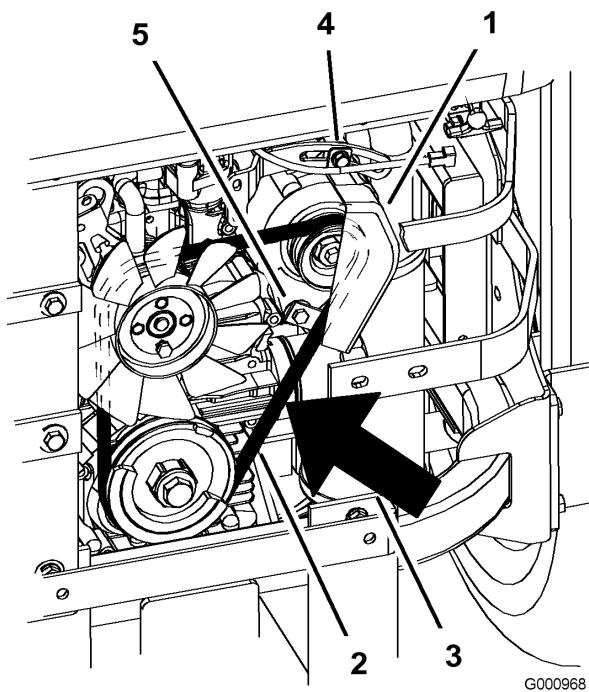

Figure 61
9. Install a new belt around the pulleys and the alternator (Figure 61).
14. Tighten the bottom bolt and install the upper bolt holding the alternator and cover (Figure 61).
2. Adjust the alternator to the outside until there is 1/4 to 11/32 inch (7 to 9 mm) deflection in the belt between the engine and the alternator pulleys with 22.1 lbs of force (10 kgf) (Figure 61).
5. If the deflection is correct, tighten the bottom and upper bolt (Figure 61).
7. Loosen the bottom bolt and remove the upper bolt holding the alternator and cover (Figure 61).